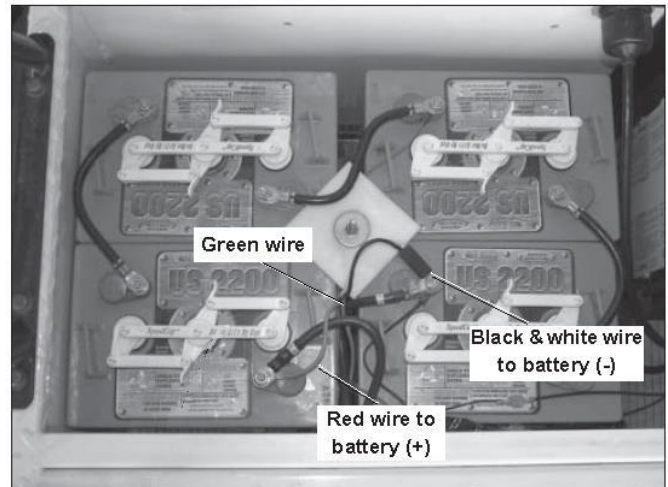

Figure 9-6
3. See Figure 9-6. Install charger output electrical leads as follows; black and white to battery B-, red wire to battery B+, green wire to red wire #14 from interlock harness. Plug in cord from power inlet to charger pigtail. Tape the two plugs together so they cannot accidentally separate.